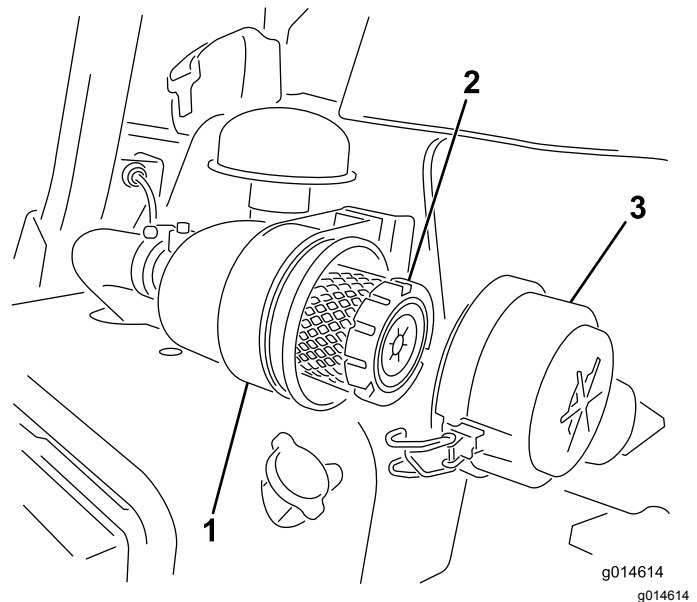

Figure 25
1. Release the latches securing the air-cleaner cover to the air-cleaner body (Figure 25).
7. Secure the latches (Figure 25).